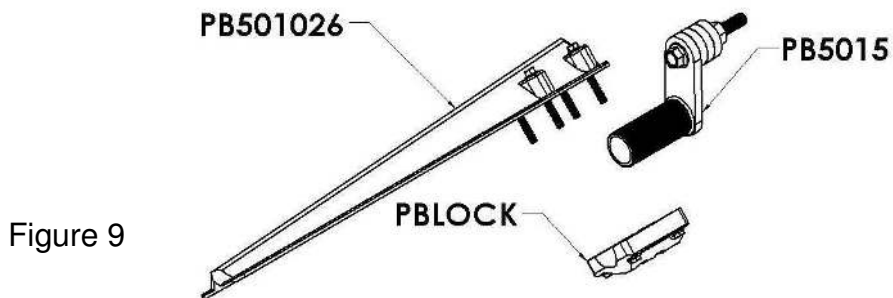

Figure 9
- A. Use four 5/16" x 3" bolts to attach the bracket (part number PB501026) and the backing block (part number PBLOCK) to the steel swivel (part number PB5015). See Figure 9